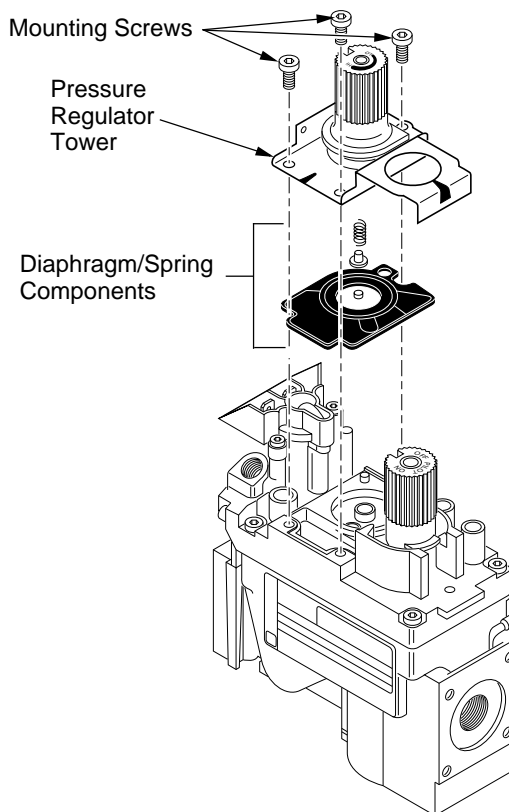

Figure 4 - Removing Mounting Screws, Pressure Regulator Tower, and Diaphragm/Spring Components
1. Using a Torx T20 or slotted screwdriver, remove and discard the three mounting screws, pressure regulator tower, and diaphragm/spring components (see Figure 4).